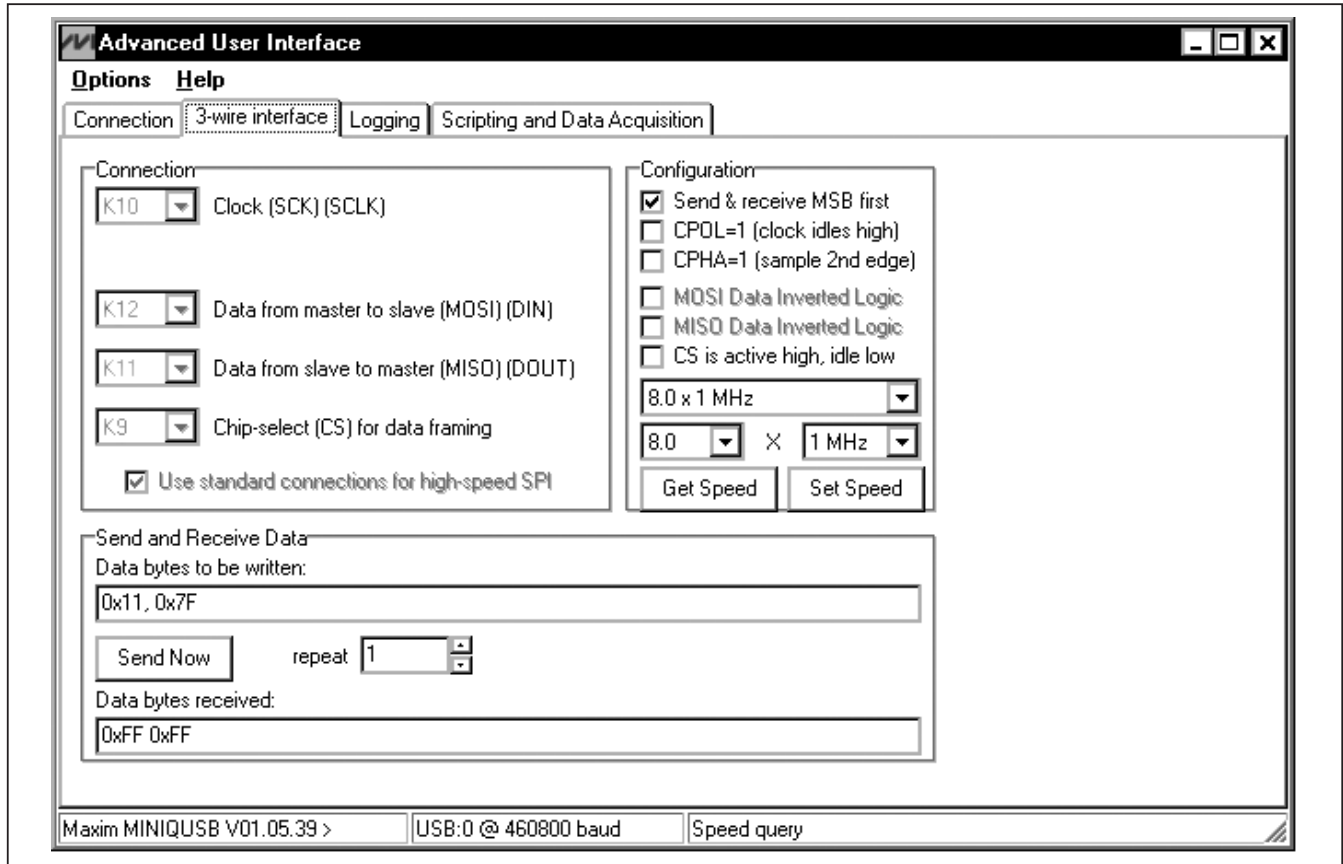

Figure 3. Simple Low-Level 3-Wire Interface
the **3-Wire Interface** (Figure 3) utility from the main program's **Options | Advanced Users Interface** menu bar. A window is displayed that allows SPI send/receive data operations.
On the **3-wire interface** tab, the **Connection** group box defines the hardware connections of the interface. For the EV kit, **K10** is selected from the **Clock (SCK) (SCLK)** drop-down list, **K12** from the **Data from master to slave (MOSI) (DIN)** drop-down list, **K11** from the **Data from slave to master (MISO) (DOUT)** drop-down list, **K9** from the **Chip-select (CS) for data framing** drop-down list, and the **Use standard connections for high-speed SPI** checkbox is checked (see Figure 3).
The **Configuration** group box allows the user to configure the logic level and data rate. For the MAX5393 EV kit, check the **Send & Receive MSB first** checkbox and verify that the **CPOL=1 (clock idle high)** and **CPHA=1 (sample 2nd edge)** checkboxes are unchecked (see Figure 3).
**Note:** The SPI dialog boxes accept numeric data in hexadecimal format. Hexadecimal numbers must be prefixed by \$ or 0x. Figure 3 shows a simple SPI write-byte operation using the included 3-wire interface diagnostics tool. In this example, the software is sending command 0x11 (write to potentiometers A and B) and data 0x7F. The data sequence sets potentiometer A and B wiper positions to 127.